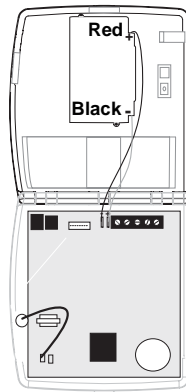

Figure 12. Battery Connected in Compartment
4. Replace the cover to the Battery Compartment (see Figure 12).